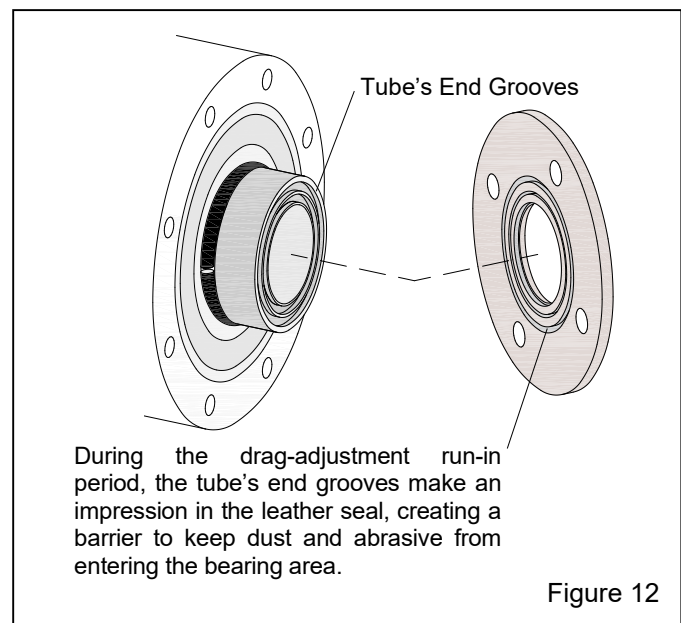

Figure 12
**6.5.1** The drag provides pressure on the leather dust seal, slows the head rotation, and seals the bearings from the abrasive stream. As the tube turns, grooves in the tube make an impression in the leather seal, as shown in Figure 12. The grooves seal the bearing from the blast stream. As the tube turns against the leather seal, the seal compresses and requires readjustment or replacement before it wears too thin. The leather seal must never be allowed to wear through.